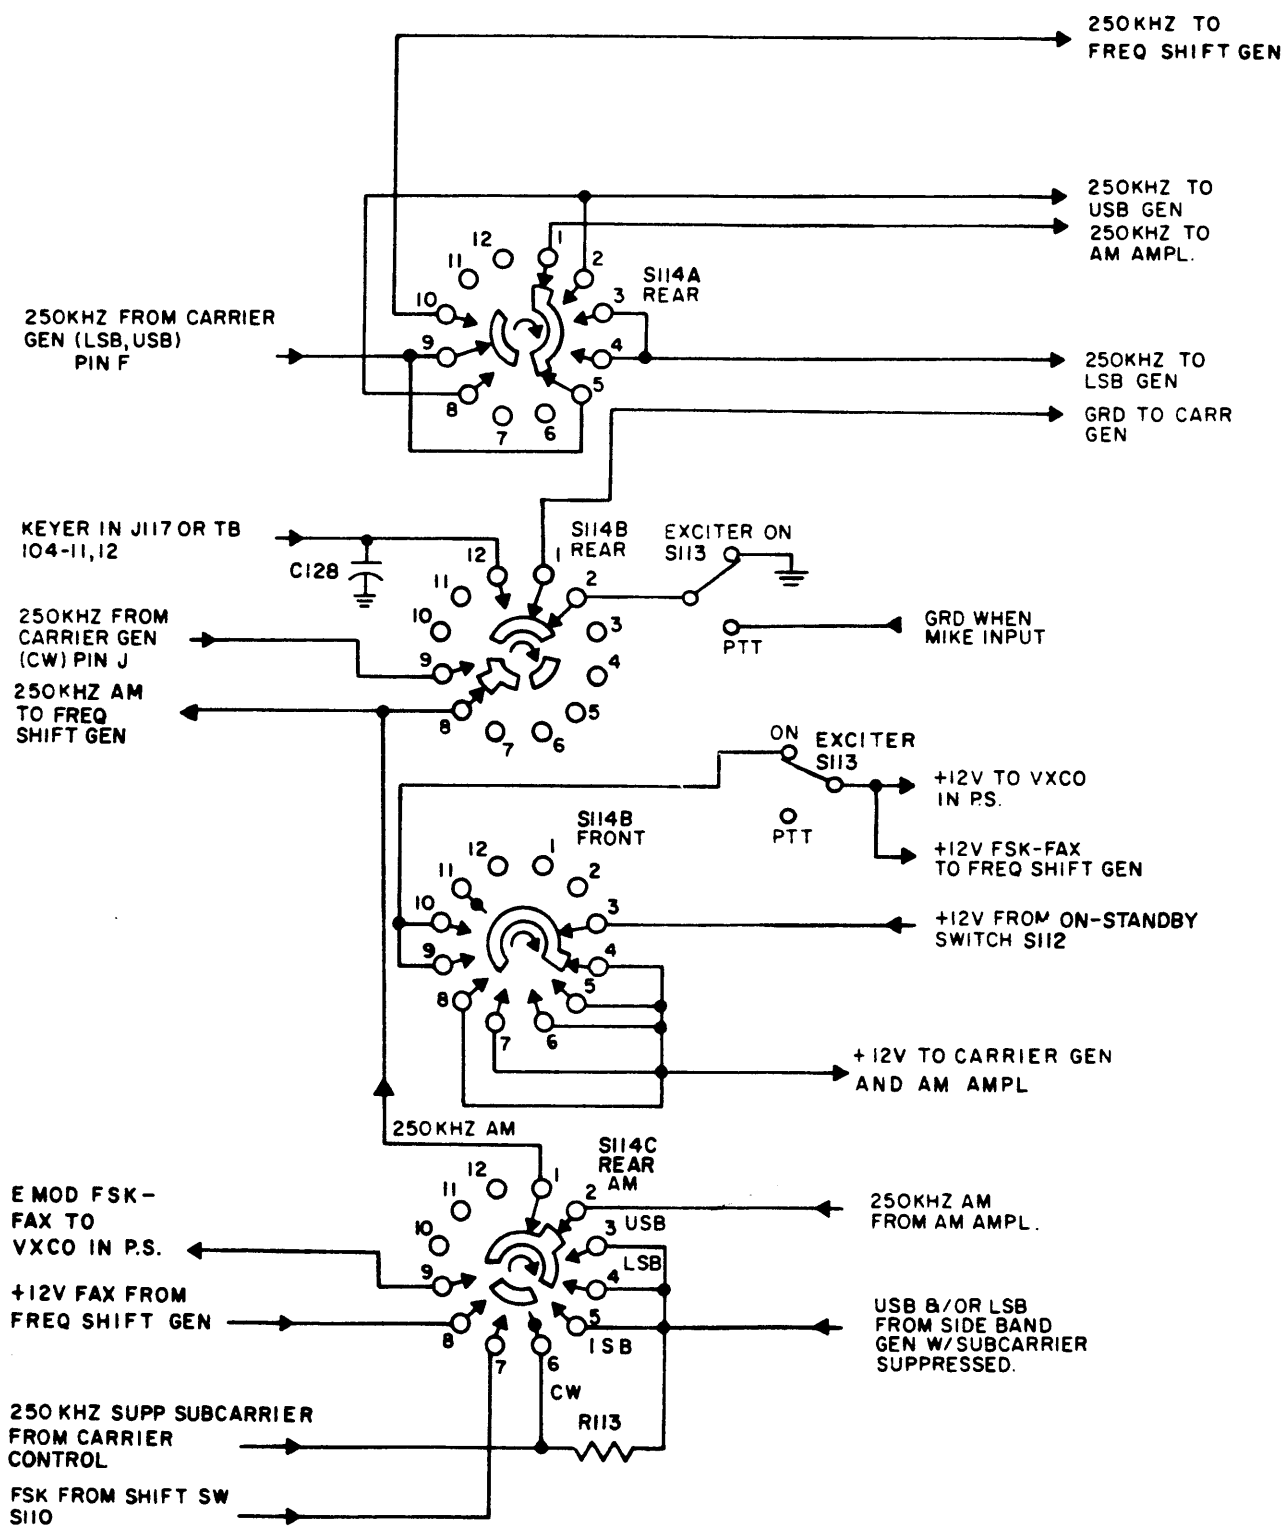

Figure 4-4. CW, FSK, and FAX Mode Switching, Simplified Schematic Diagram
(2) The remaining decks of MODE switch S114 (C rear, B front and rear, and A rear) perform independent functions such as 250 kHz subcarrier and AM distribution and reinsertion, and CW, FSK and FAX selection. (See figure 4-4.) The 250 kHz subcarrier output from carrier generator Z112 is applied to S114A (rear) at contacts 9 and 5. With the MODE switch in the AM position, the subcarrier is channeled to the AM amplifier in Z112; in the USB, LSB and ISB positions, the 250 kHz subcarrier is applied to either the respective sideband generator circuit in Z109, or to both sideband generator circuits simultaneously. Deck S114B (front) of the MODE switch distributes +12 vdc operating potential to the 2.75 MHz carrier generator and AM amplifier circuits in Z112 in the AM, USB, LSB, ISB and CW positions. (See figure 7-1.) In the FSK and FAX positions, +12 vdc is routed through the ON position